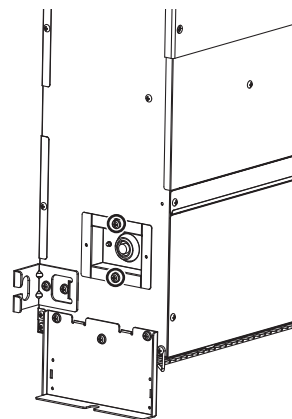

Fig.15
- (2) Remove the two bearing retainer screws to remove the bearing. (Fig. 15)